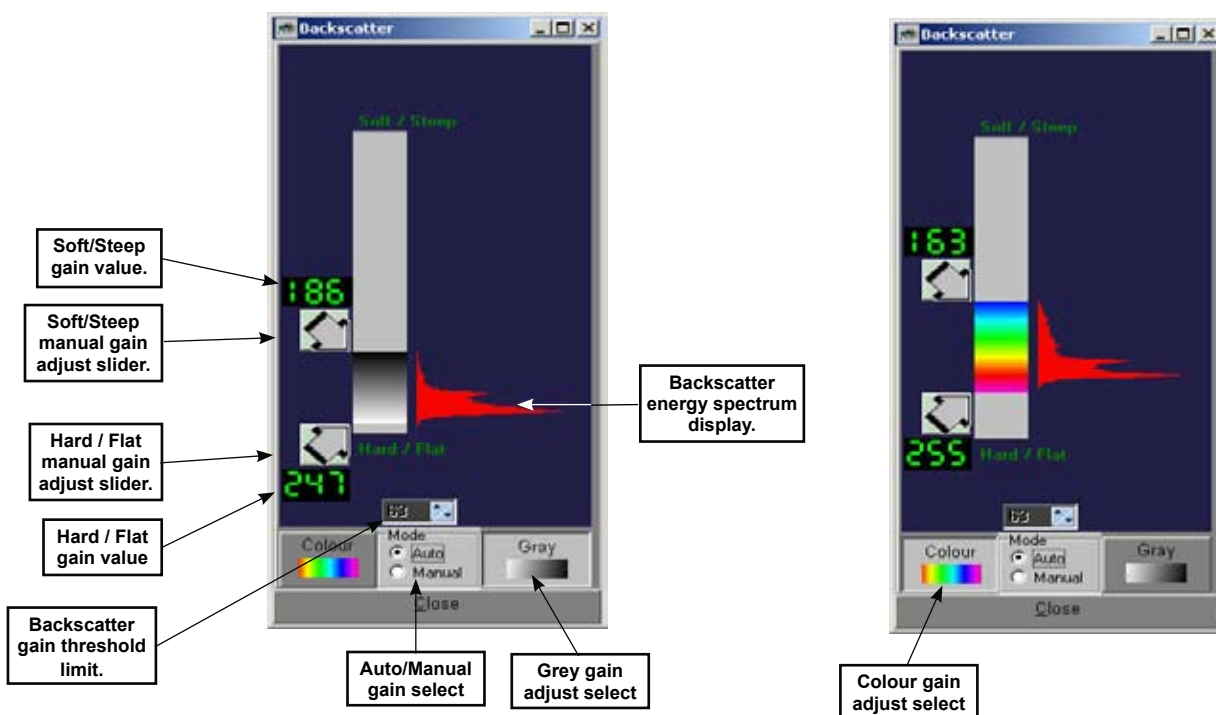

Figure 40 – Grey and Colour Backscatter gain adjust boxes.
- 8) If the Auto mode does not give the desired bottom image, selecting Manual mode allows you to choose a greater or lesser part of the backscatter energy spectrum. In Manual mode, hold the mouse cursor over the arrow symbols and drag the arrow up or down to change the gain values for Soft/ Steep bottom or Hard/Flat bottom. See Figure 40 below for an illustration of a correctly adjusted colour backscatter image